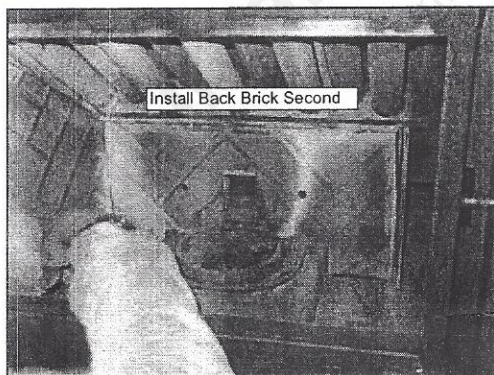

Figure 20
2. The back brick goes in second. Secure the back with the 2 fasteners removed previously. **Figure 20.**